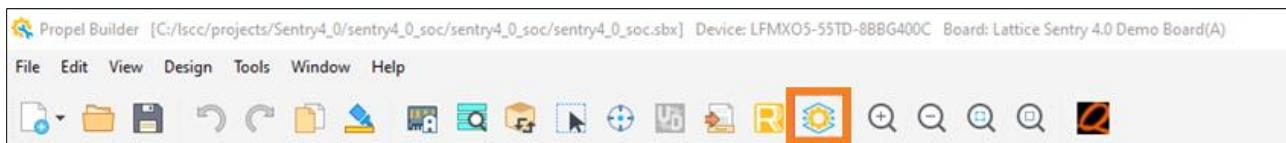

Figure 4.16. Lattice Propel SDK Icon
1. In Lattice Propel Builder, choose **Design > Run Propel SDK** or click the Lattice Propel SDK icon in the ribbon to create and open the firmware project (Figure 4.16).